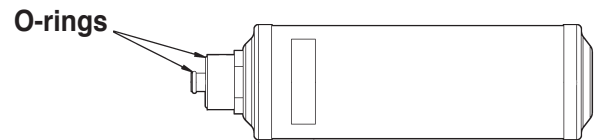

Figure 12
5. Look at the new filter—verify both o-rings are lubricated and correctly located in the grooves. See Fig. 12. Thread the new filter into place and tighten.